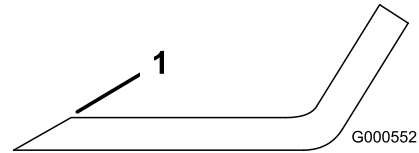

Figure 82
1. Use a file to sharpen the cutting edge at both ends of the blade (Figure 82).
**Note:** If the blade is not balanced, file some metal off the end of the sail area only (Figure 82).